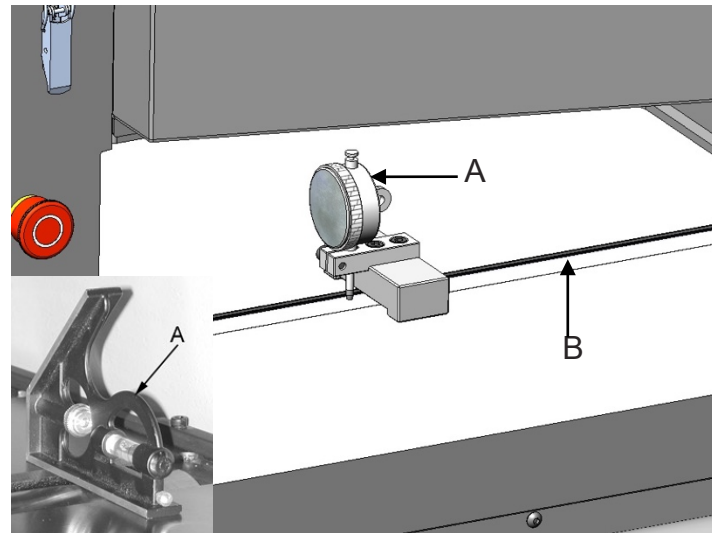

Figure 23: Table Roller Adjustment
1. Lay a gauge or straight edge (Fig. 23, A) on the table across the roller (Fig. 23, B).